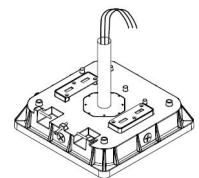

Figure 5
- If the incoming power wires from the luminaire are longer than the pendant, make wiring connections in the junction box. If the wires are not longer than the pendant, pull wires from the junction box as required, and make wiring connections inside the pendant (see Figure 5).